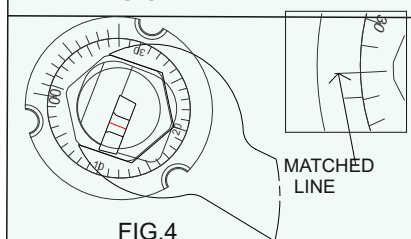

FIG.4
- After checking closer line on the vernier scale rotate nut of the MBU match closer line with reference line on the main scale as shown in FIG.4